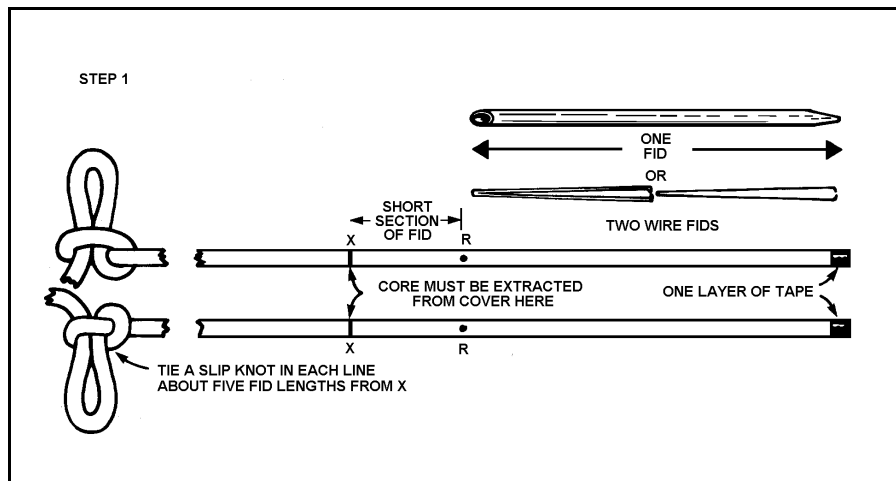

Figure 12-66. Marking the Measurements
- STEP 1 -- Marking the measurements.** Tape the end of each line with one thin layer of tape. Lay two lines to be spliced side by side and measure one tubular fid length (two wire fid lengths) from end of each line and make a mark. This is point R (see Figure 12-66). From point R measure one short fid section length and mark again. This is point X where you should extract core from inside the cover. Be sure both lines are identically marked. Tie a tight slip knot about five fid lengths from point X. If you require the line with the finished splice to be a certain overall length, refer to Special Tools and Techniques, paragraph 12-122, page 12-43.